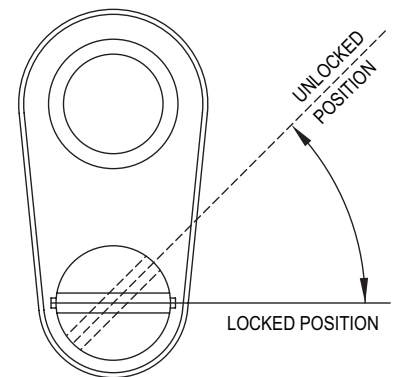

FIGURE 2
- Check the ejector to make sure it is in the locked position (Fig. 2).
- **EFFICIENCY:** At an eight-foot static head and a supply pressure of 40 PSI at (A) with water flowing, it takes one (1) gallon of supply water to remove (1) gallon from the sump. As the supply pressure increases with the static head constant, less supply water is required.